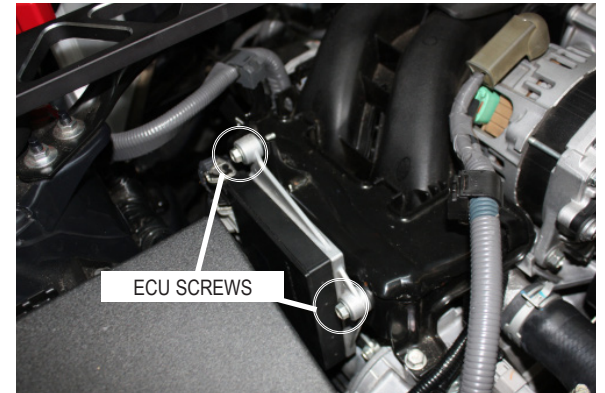

Fig. 11B
- C. Using a 10mm wrench, remove the 3 screws securing the ECU to the engine. Set ECU & screws aside. See Fig. 11B